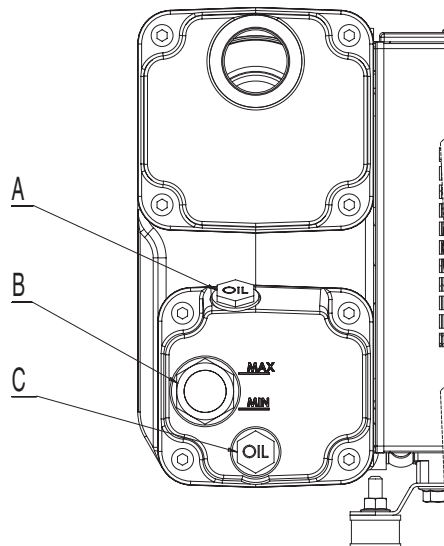

Fig.8
Carry out the first filling up through the plug (E) up to the half of the sight glass (F) and close the plug (E) (Figure 8).
Please refer to Figure 8, section 5.6. Unscrew the oil filling plug (E) and the discharge plug (G) only after having placed below the pump tank a suitable container (proper size and shape) for collecting the total quantity of oil.